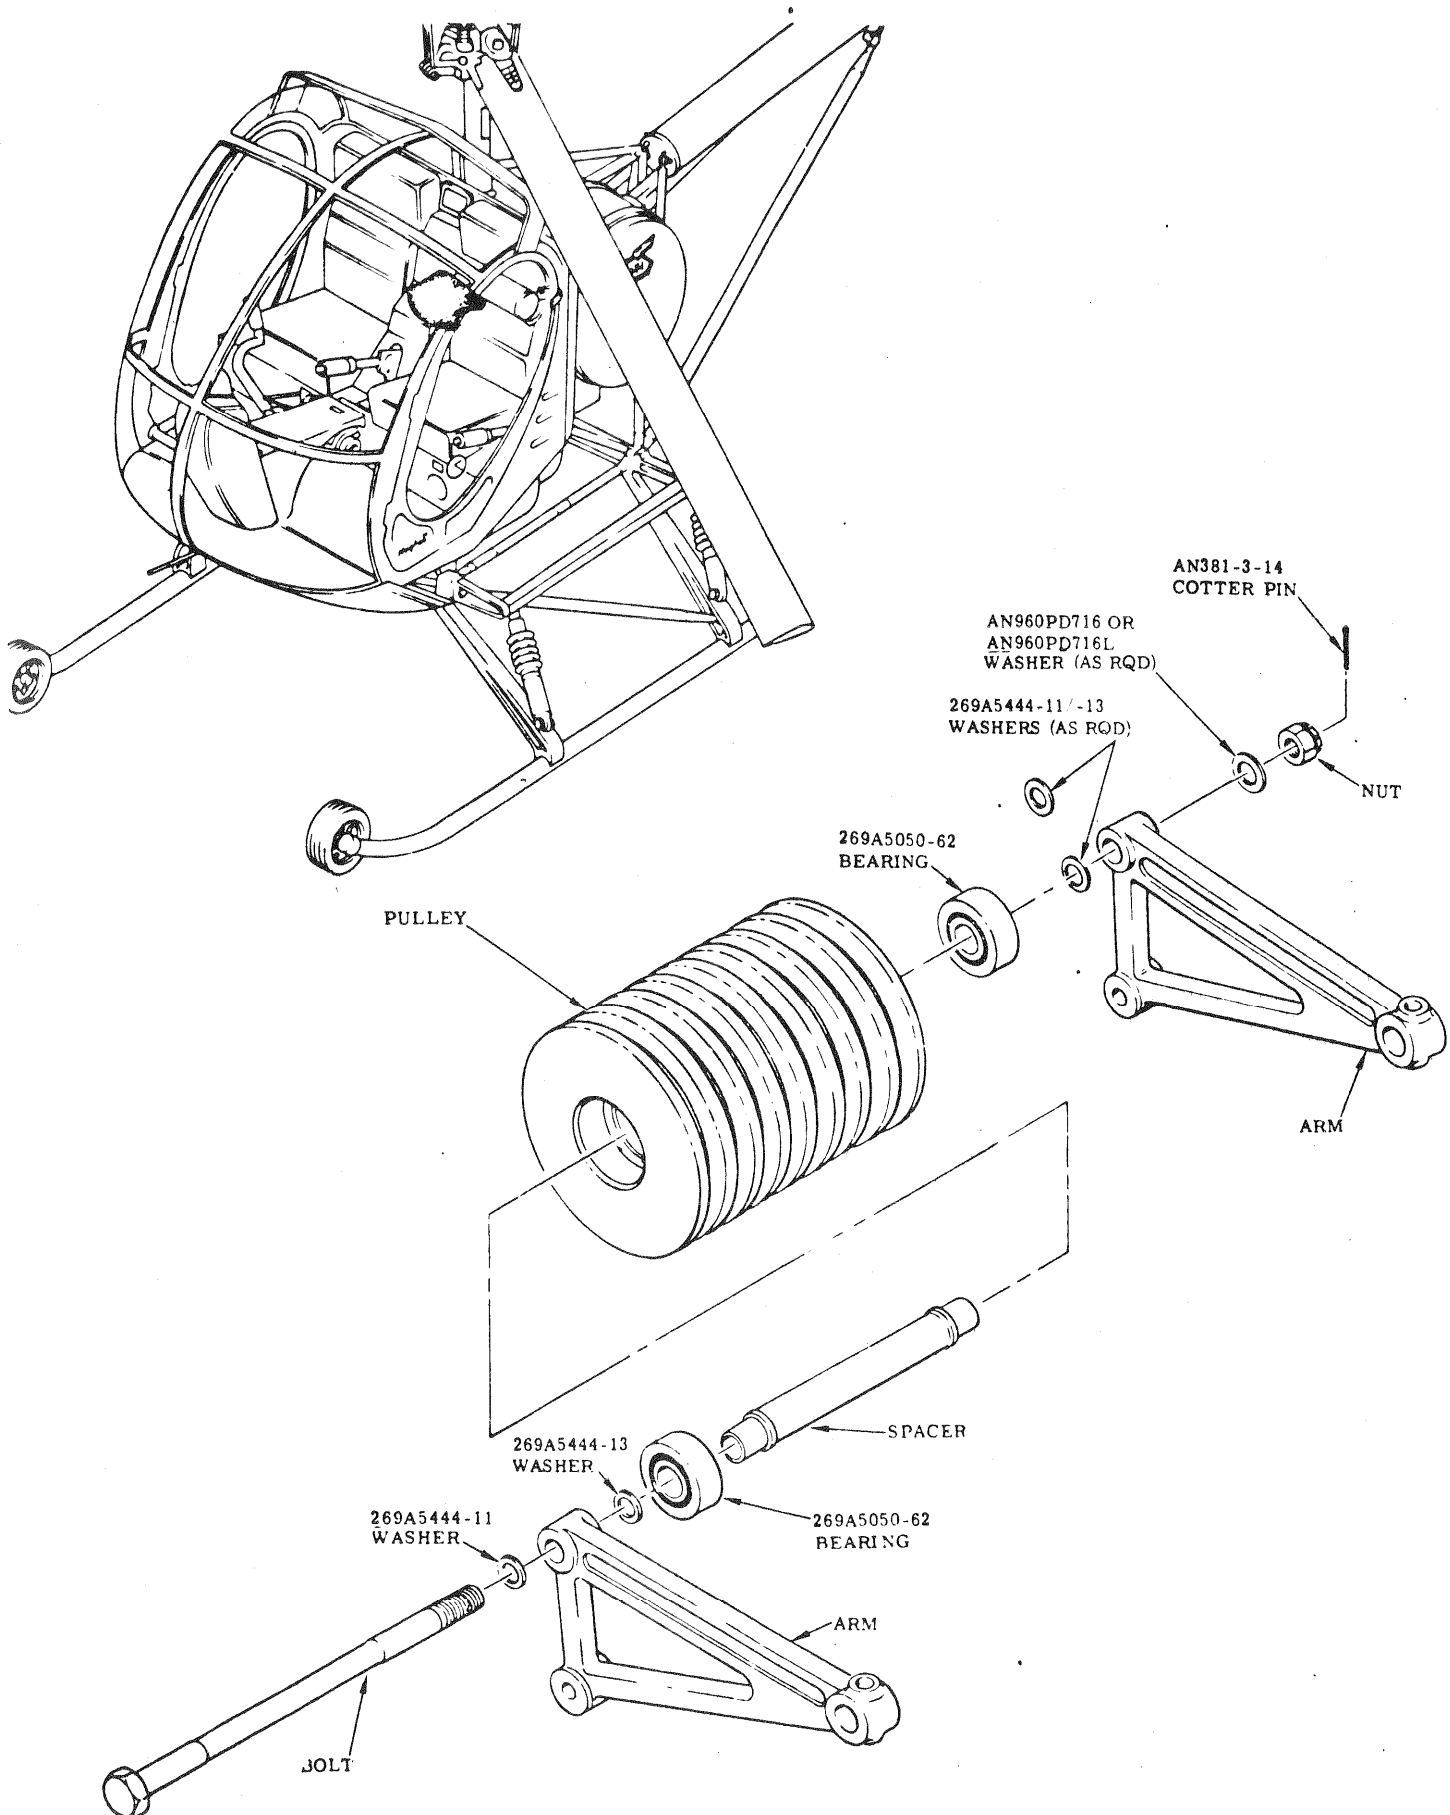

FIGURE 1. BELT DRIVE IDLER PULLEY ASSEMBLY
- f. Remove cotter pin, nut and washers securing forward end of idler pulley shaft to pulley arm; retain washers and nut. (Figure 1)